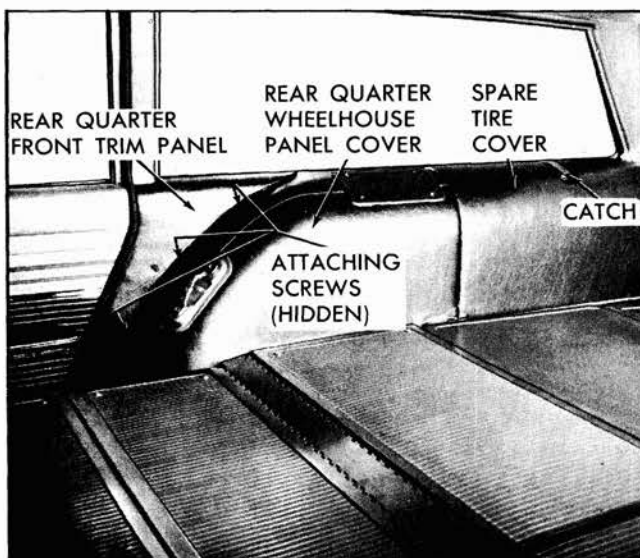

Fig. 4-12 Right Rear Quarter Trim - Station Wagon
2. Remove attaching screws securing trim panel to quarter inner panel and spare tire cover support (Fig. 4-12).